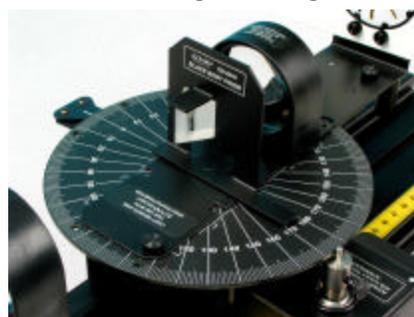

Figure 2: Prism Orientation
2. Check that the prism is oriented as shown in Figure 2 with the apex facing the light source.